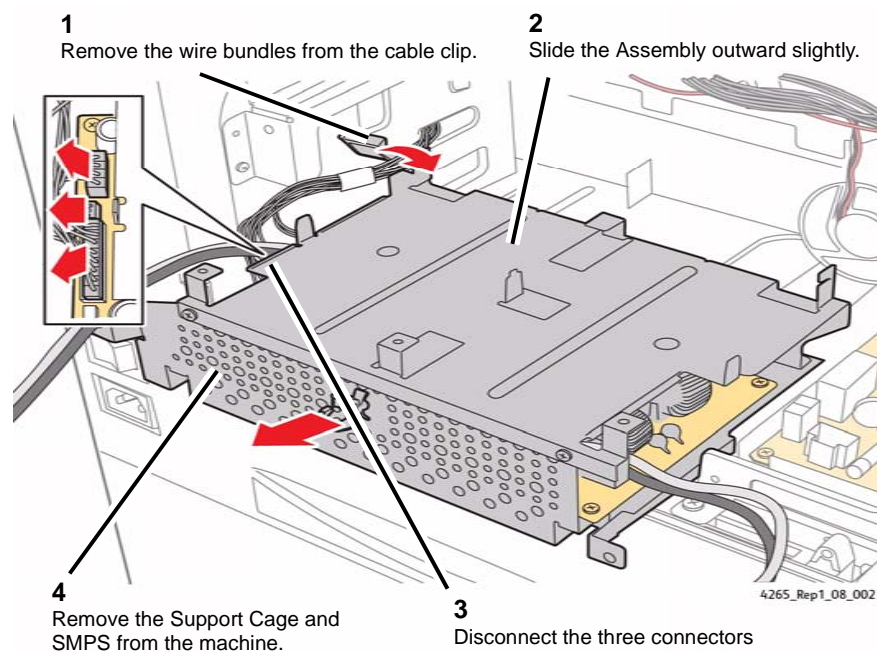

Figure 2 Removing the Support Cage and the SMPS
4. Remove the Support Cage and SMPS from the machine (Figure 2).